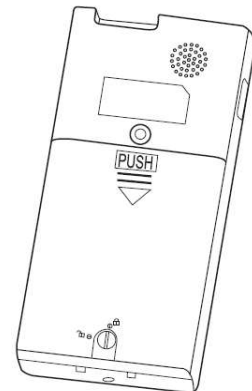

Fig.2-2
1) Open the battery cover: Rotate the fixing screw slightly in the rear panel to the position which is marked with “” and then push the cover as indicated by arrowhead, as shown in Fig. 2-2.